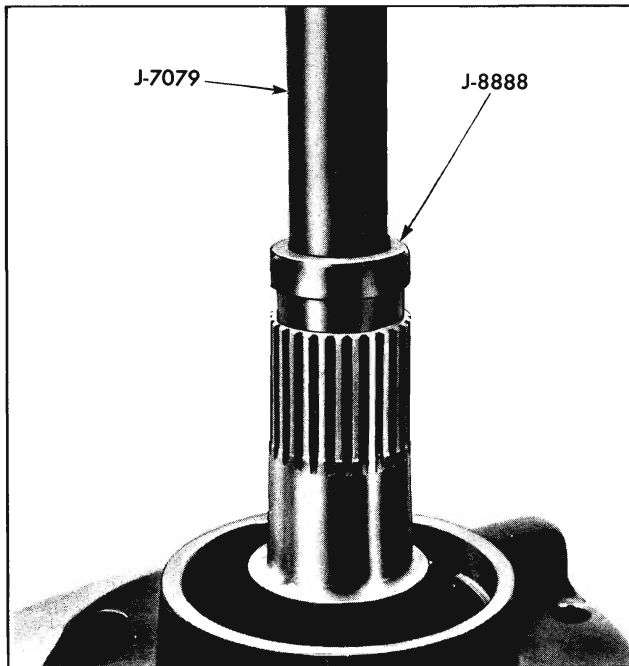

Fig. 4-50 Installing New Bushing
1. Install new bushing using tool J-8888 with J-7079 handle (Fig. 4-50).